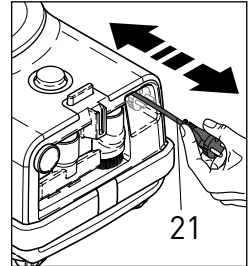
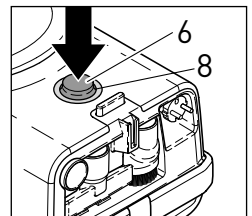

Figure 2
Figure 4
BEFORE YOU USE YOUR AIRBELT D - Figures 2, 3 & 4
D4 Premium Users - Figures 2, 3 & 4
1. Grasp the plug and pull the power cord (21) out from the power cable recess (figure 2). The power cord should be unwound from the cable reel at least two thirds of its length or approx. twenty-five feet. Do not over-extend the cord. **DO NOT PLUG INTO POWER SOURCE UNTIL STEP 3 BELOW.**
4. Press the on/off power knob on the base of the canister (6) gently with your foot or hand (figure 4).
The blue light (8) will illuminate indicating that the power is on. The blue LED light (8) around the on/off knob (6) will pick up speed as the suction on the canister increases (figure 4). It will reach full power in a few seconds.
D1 Turbo Users - Figures 2 & 4
2. Grip the handle of the hose (1).
4. Press the on/off power knob on the base of the canister (6) gently with your foot or hand (figure 4). The blue light (8) will illuminate indicating that the power is on. Rotate the power knob (6), which also functions as suction adjustment, to increase or decrease to the desired suction.
5. **BEFORE PROCEEDING WITH FURTHER ASSEMBLY AND USE**, turn off the vacuum with the on/off power knob on the canister (6) AND unplug the unit from the wall outlet.